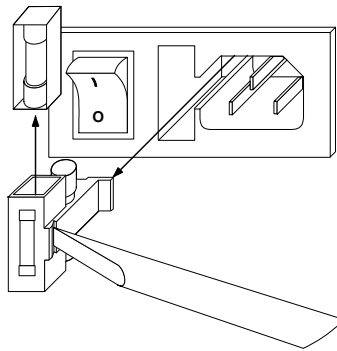

Figure 8-2 Changing the fuse in the MS5800
2. Using a flat-head screwdriver, remove the module as shown in Figure 8-2.